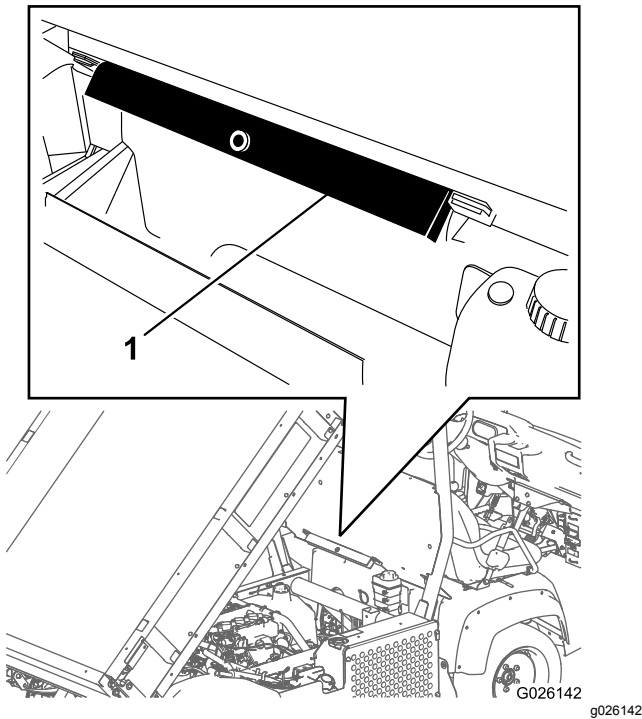

Figure 12
2. Remove the bed support from the storage brackets on the back of the ROPS panel (Figure 12).